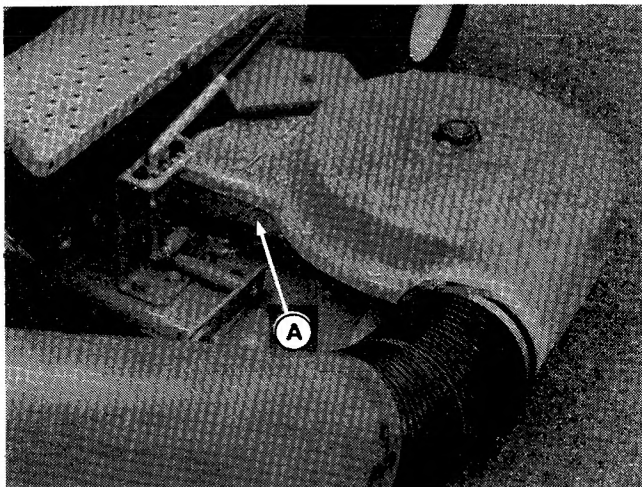

**Figure 7.**
12. Install the new baffle (A, figure 7) in deck on stone guard using existing hardware. Hardware may be installed with nut to inside or nut to outside.